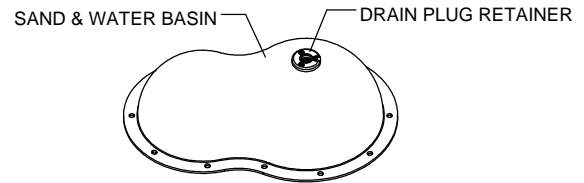

FIGURE 2
Using the Drain Plug Retainer as a template, level and match drill (3) $\varnothing 1/4"$ holes and (1) $\varnothing 1-1/8"$ hole at center of Basin as shown in Figure 2.